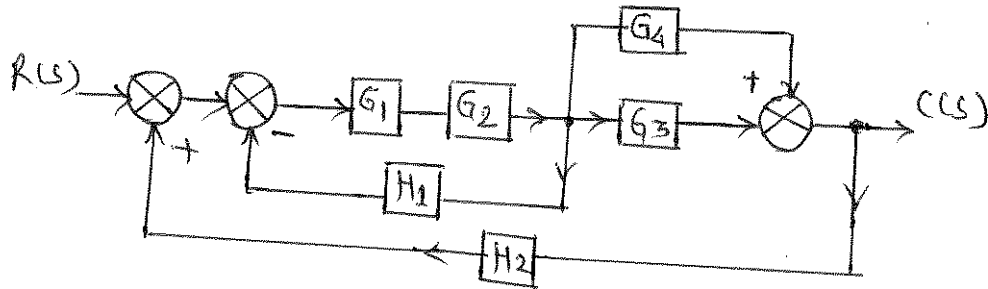

Fig. 2b
- b) Find the closed loop T.F. for the block diagram shown in fig. 2b). 6